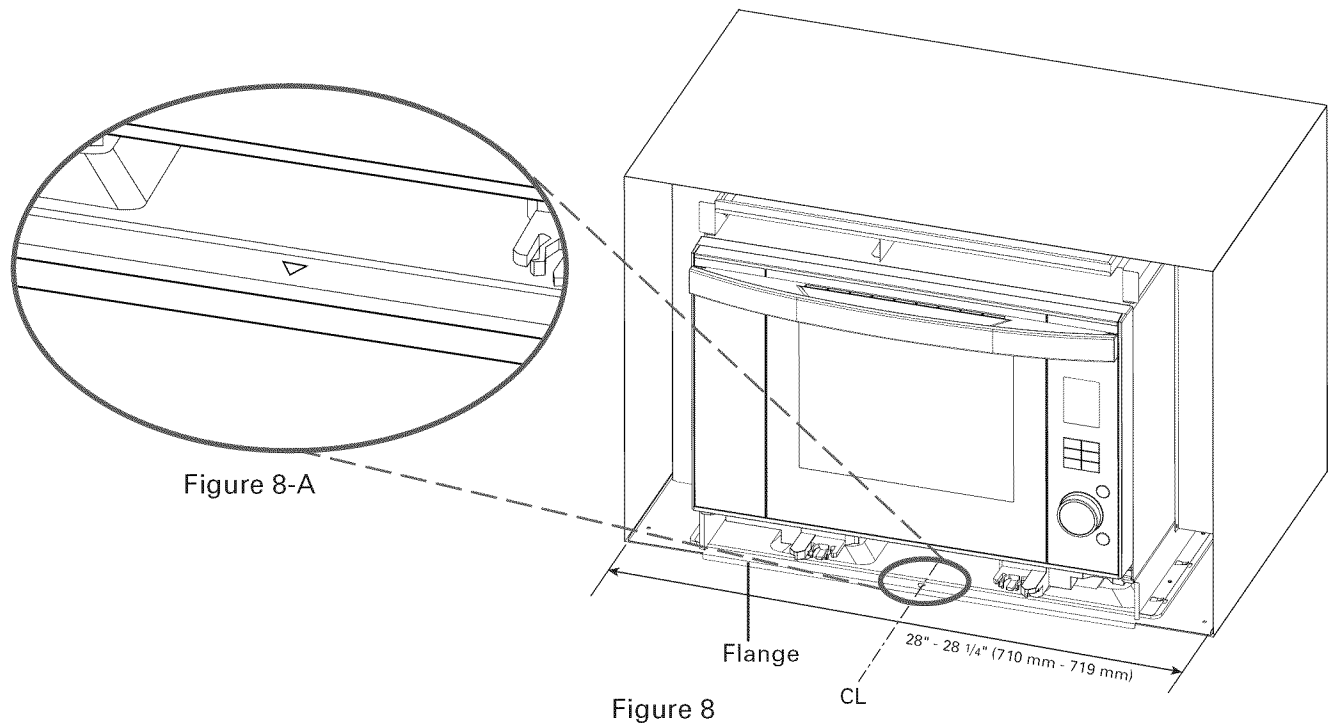

Figure 8
- ① Establish center line of opening and mark front edge.
- ② Place the oven on a table or stand positioned in front of the cabinet where the oven is to be installed. One person should hold the oven while the other connects it to the electrical outlet.
- ③ Install the oven into the shelf with adjusting ∇ mark on EXHAUST DUCT BOTTOM to the center line marked on front edge as shown in Figures 8 and 8-A. Then push the oven until the flange of EXHAUST DUCT BOTTOM touches the edge of the wall or cabinet opening. Avoid pinching the cord between the oven and any wall as shown in Figure 8.
④ Secure EXHAUST DUCT BOTTOM to the shelf with 2 SCREWS (B) as shown in Figures 8-B.